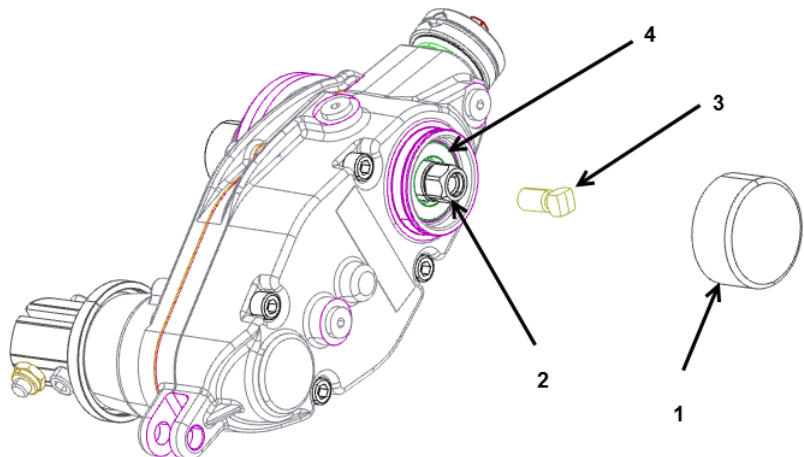

Figure 5
1-803022	Screw, 5/16-18 X 5/8 SQ HD, (Figure 5, Item 3)
137-0902	Cap for non-Rear Roller Brush application. (Figure 5, Item 1)
2. Before applying torque to the hex head (Figure 5, Item 2) to remove grommer drive assembly, install screw, 5/16-18 X 5/8 SQ HD to internal threads of the hex head and torque to 13.5 Nm (120 lbs.-in). Installing screw increases the strength and lessen the possibility of shearing (breaking off) the hex head. (Figure 5)